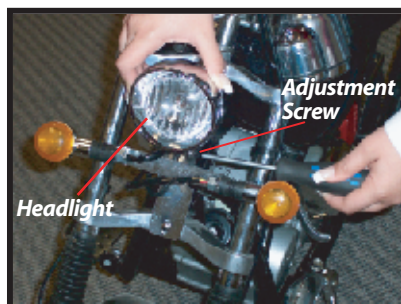

Fig. 4
2. Adjust the headlight and tighten using the provided screwdriver (Fig. 4)